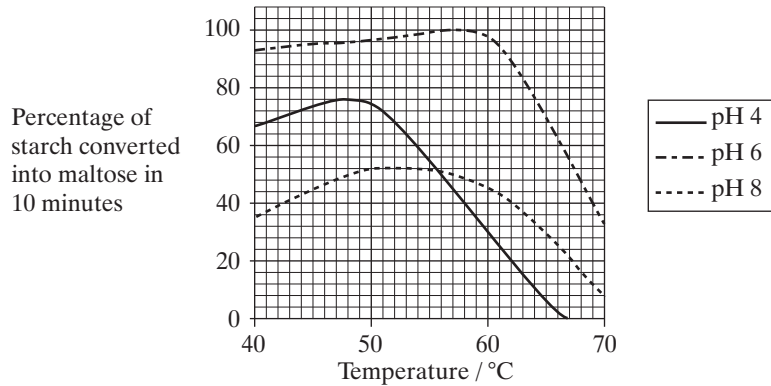

Figure 3
- (b) **Figure 3** shows the results of tests to determine the optimum temperature for the activity of this amylase.